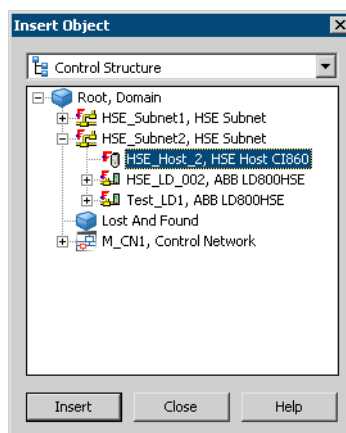

Figure 183. Insertion of an HSEHostCI860 Object
4. Select the appropriate HSEHostCI860 object from an HSE Subnet in the following dialog (refer to Figure 183).